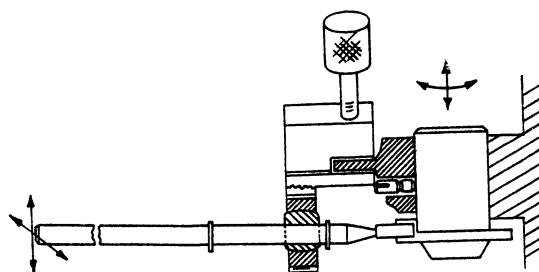

Figure 4-22. FOCUSING SOUND OPTICS CARTRIDGE
- a. Use Tool T-43680-G1-G by attaching Ring portion to Cartridge and clamping Adjusting Rod portion to Lamphouse Platform of Main Casting (Figure 4-22). Focus Optics by moving Adjusting Rod up or down or Back and Forth to achieve Requirements of Step 3 above.